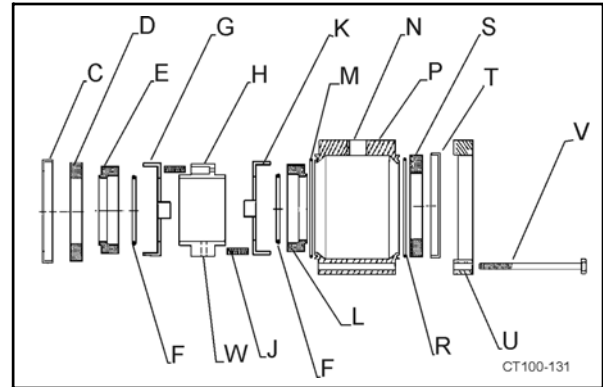
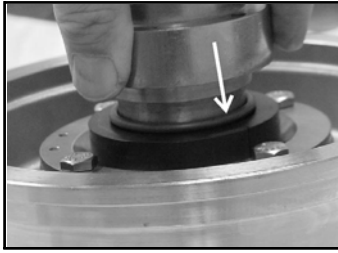

Figure 28 - Type 4 Seal Components
Figure 30 - Install O-ring Using Spring Retainer.
1. Install L-gasket in backplate (Figure 28, items B and C) and seat retainer. (Figure 28, item T).
2. Install stationary seals (Figure 28, item S) in L-gaskets.
- Slide o-ring (Figure 28, item F) onto shaft and use spring retainer to push o-ring into rotary seal (Figure 30).
- Place washer (Figure 28, item G) over rotary seal with tabs in outside diameter notches.
- Place three springs (Figure 28, item J) in one side of spring retainer holding them in place with silicone sealer. With springs down slide spring retainer onto impeller shaft against washer.
- Slide washer and o-ring (Figure 28, items K and F) onto shaft against spring retainer. Use spring retainer to push o-ring into rotary seal.
- Remove 1/4 NPT plug from center port on flush housing (Figure 28, item N).
- Install o-rings (Figure 28, items R and M) in both ends of housing.
- Install L-gasket in seat retainer. (Figure 28, items T and U).
- Install stationary seal (Figure 28, item S) in L-gasket.
- With flush ports facing away from the backplate place seat retainer (Figure 28, item T) on housing.
- Tighten seat retainer in place using four hex screws (Figure 28, item V).
- Tighten set screws in spring retainer through 1/4" NPT center port in flush housing (Figure 28, item N). Insert plug and tighten.